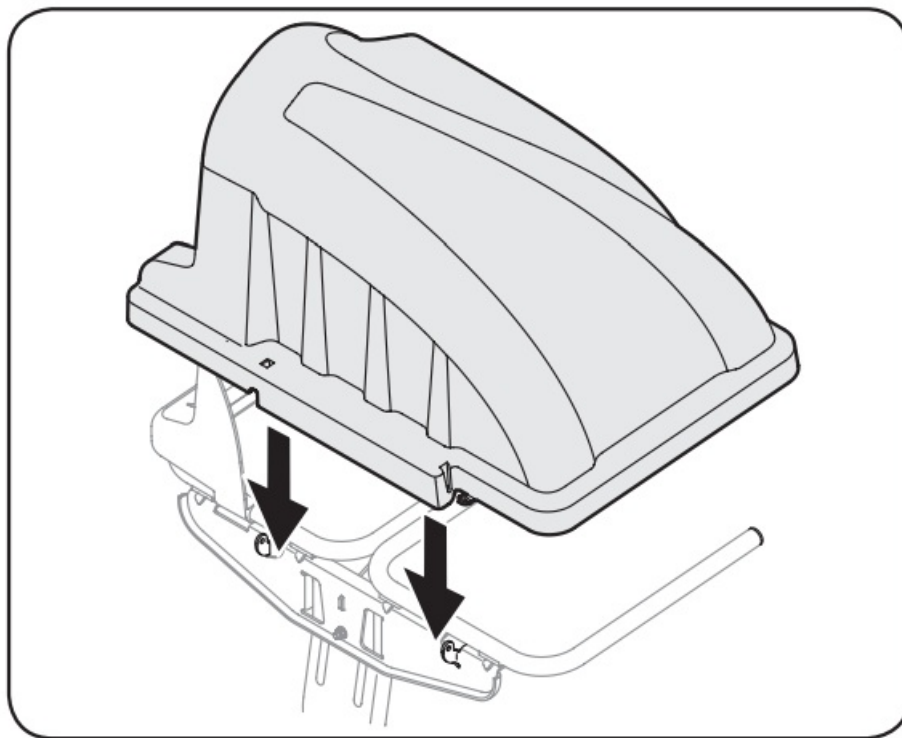

Figure 4-9
11. Install the bagger cover onto the bag support assembly, as seen in Figure 4-9. The plastic cover goes inside of the two mounting tabs.